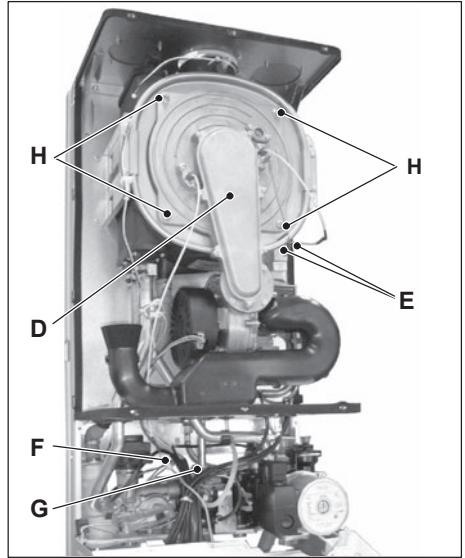

Fig. 9.5
To remove the burner-fan group D (Fig. 9.5):
- Disconnect the connectors of the ignition electrodes E and detection electrode F (Fig. 9.5).
- Unscrew the gas connector G (Fig. 9.5).
- Remove the nuts H (Fig. 9.5) and the burner-fan group D.